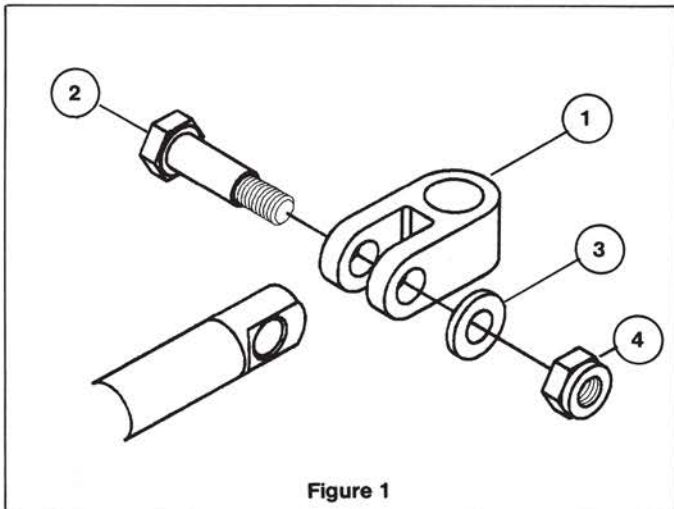

Figure 1
STEP 1. Insert Shoulder Bolt (item 2) thru Clevis (item 1) and steering cable as shown in Figure 1. Place Flat Washer (item 3) on threaded end of shoulder bolt, then thread Locknut (item 4) onto shoulder bolt. Tighten securely.